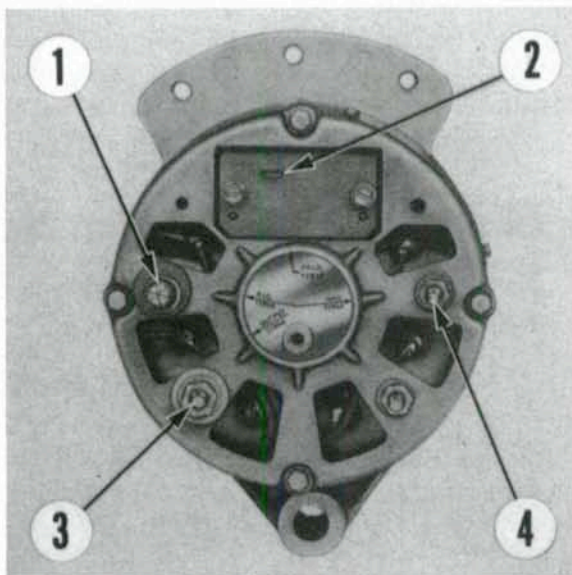

Fig. 145—Rear view of alternator showing location of terminals.
97. **BATTERY VOLTAGE TEST.** With key switch OFF, connect the negative lead of a voltmeter to GROUND terminal (4—Fig. 145) of alternator and positive lead to OUTPUT terminal (3). Battery voltage should be registered. If no voltage is registered, check for an open circuit in wiring.
98. **EXCITATION VOLTAGE TEST.** With key switch OFF, connect voltmeter negative lead to GROUND terminal (4—Fig. 145) and positive lead to REGULATOR terminal (1). Turn key switch ON, but do not start the engine. Voltmeter should register about 1.5 volts.
99. **FIELD (ROTOR) CIRCUIT TEST.** With key switch OFF, disconnect wire from alternator FIELD terminal (2—Fig. 145). Connect an ammeter in series between alternator OUTPUT terminal and FIELD ter-
**100. VOLTAGE REGULATOR VOLTAGE TEST.** With key switch off, connect voltmeter negative lead to GROUND and positive lead to alternator OUTPUT terminal (3—Fig. 145). Start engine and run for a few minutes to stabilize temperature of alternator. The voltmeter reading should be 13.9-14.7 volts, depending on regulator ambient temperature.